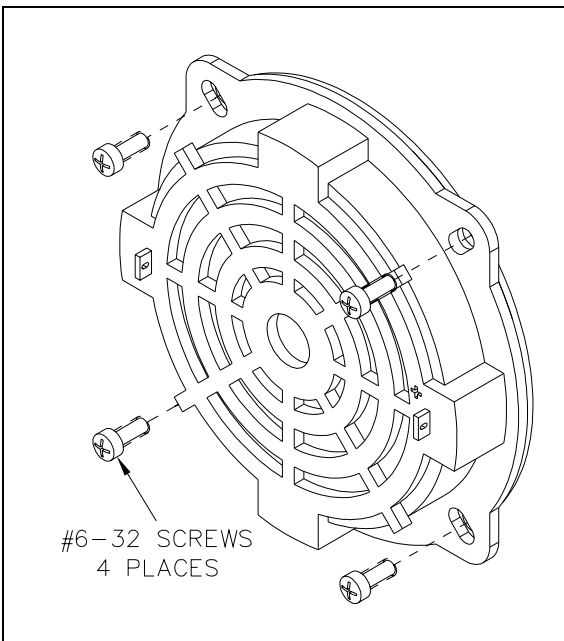

Figure 1. For Wall-Mount Telephones
- Remove and retain the four #6-32 screws securing the speaker assembly. See Figure 1 below.